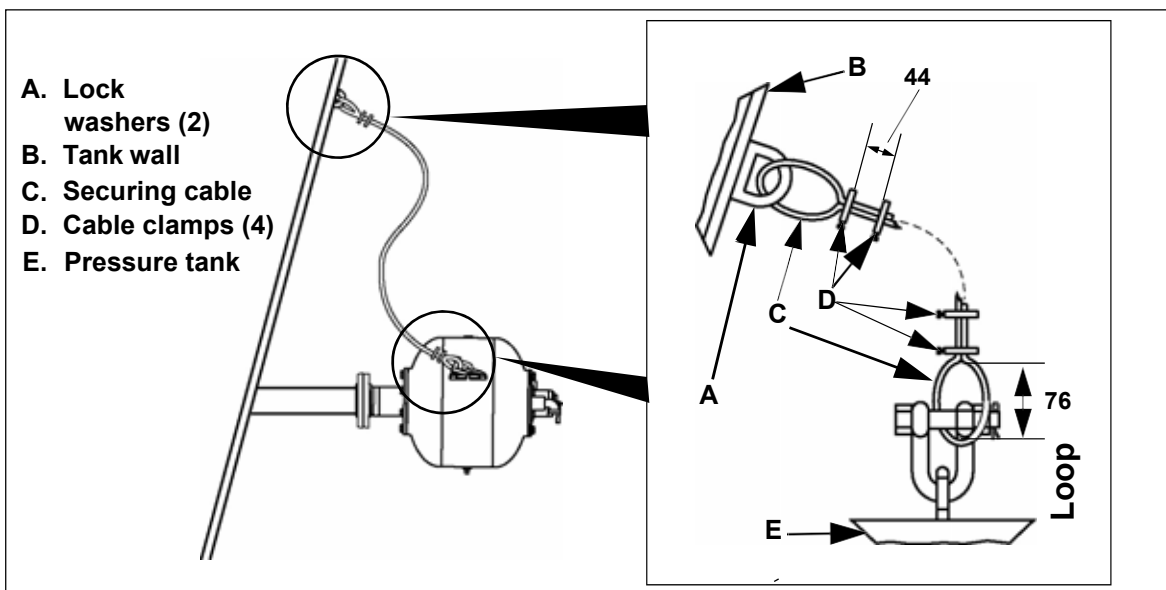

Fig. 3: Fastening the securing cable
1. Weld the lock washer enclosed (Item A in Fig. 3) with a 6 mm fillet weld to the tank wall (B)..